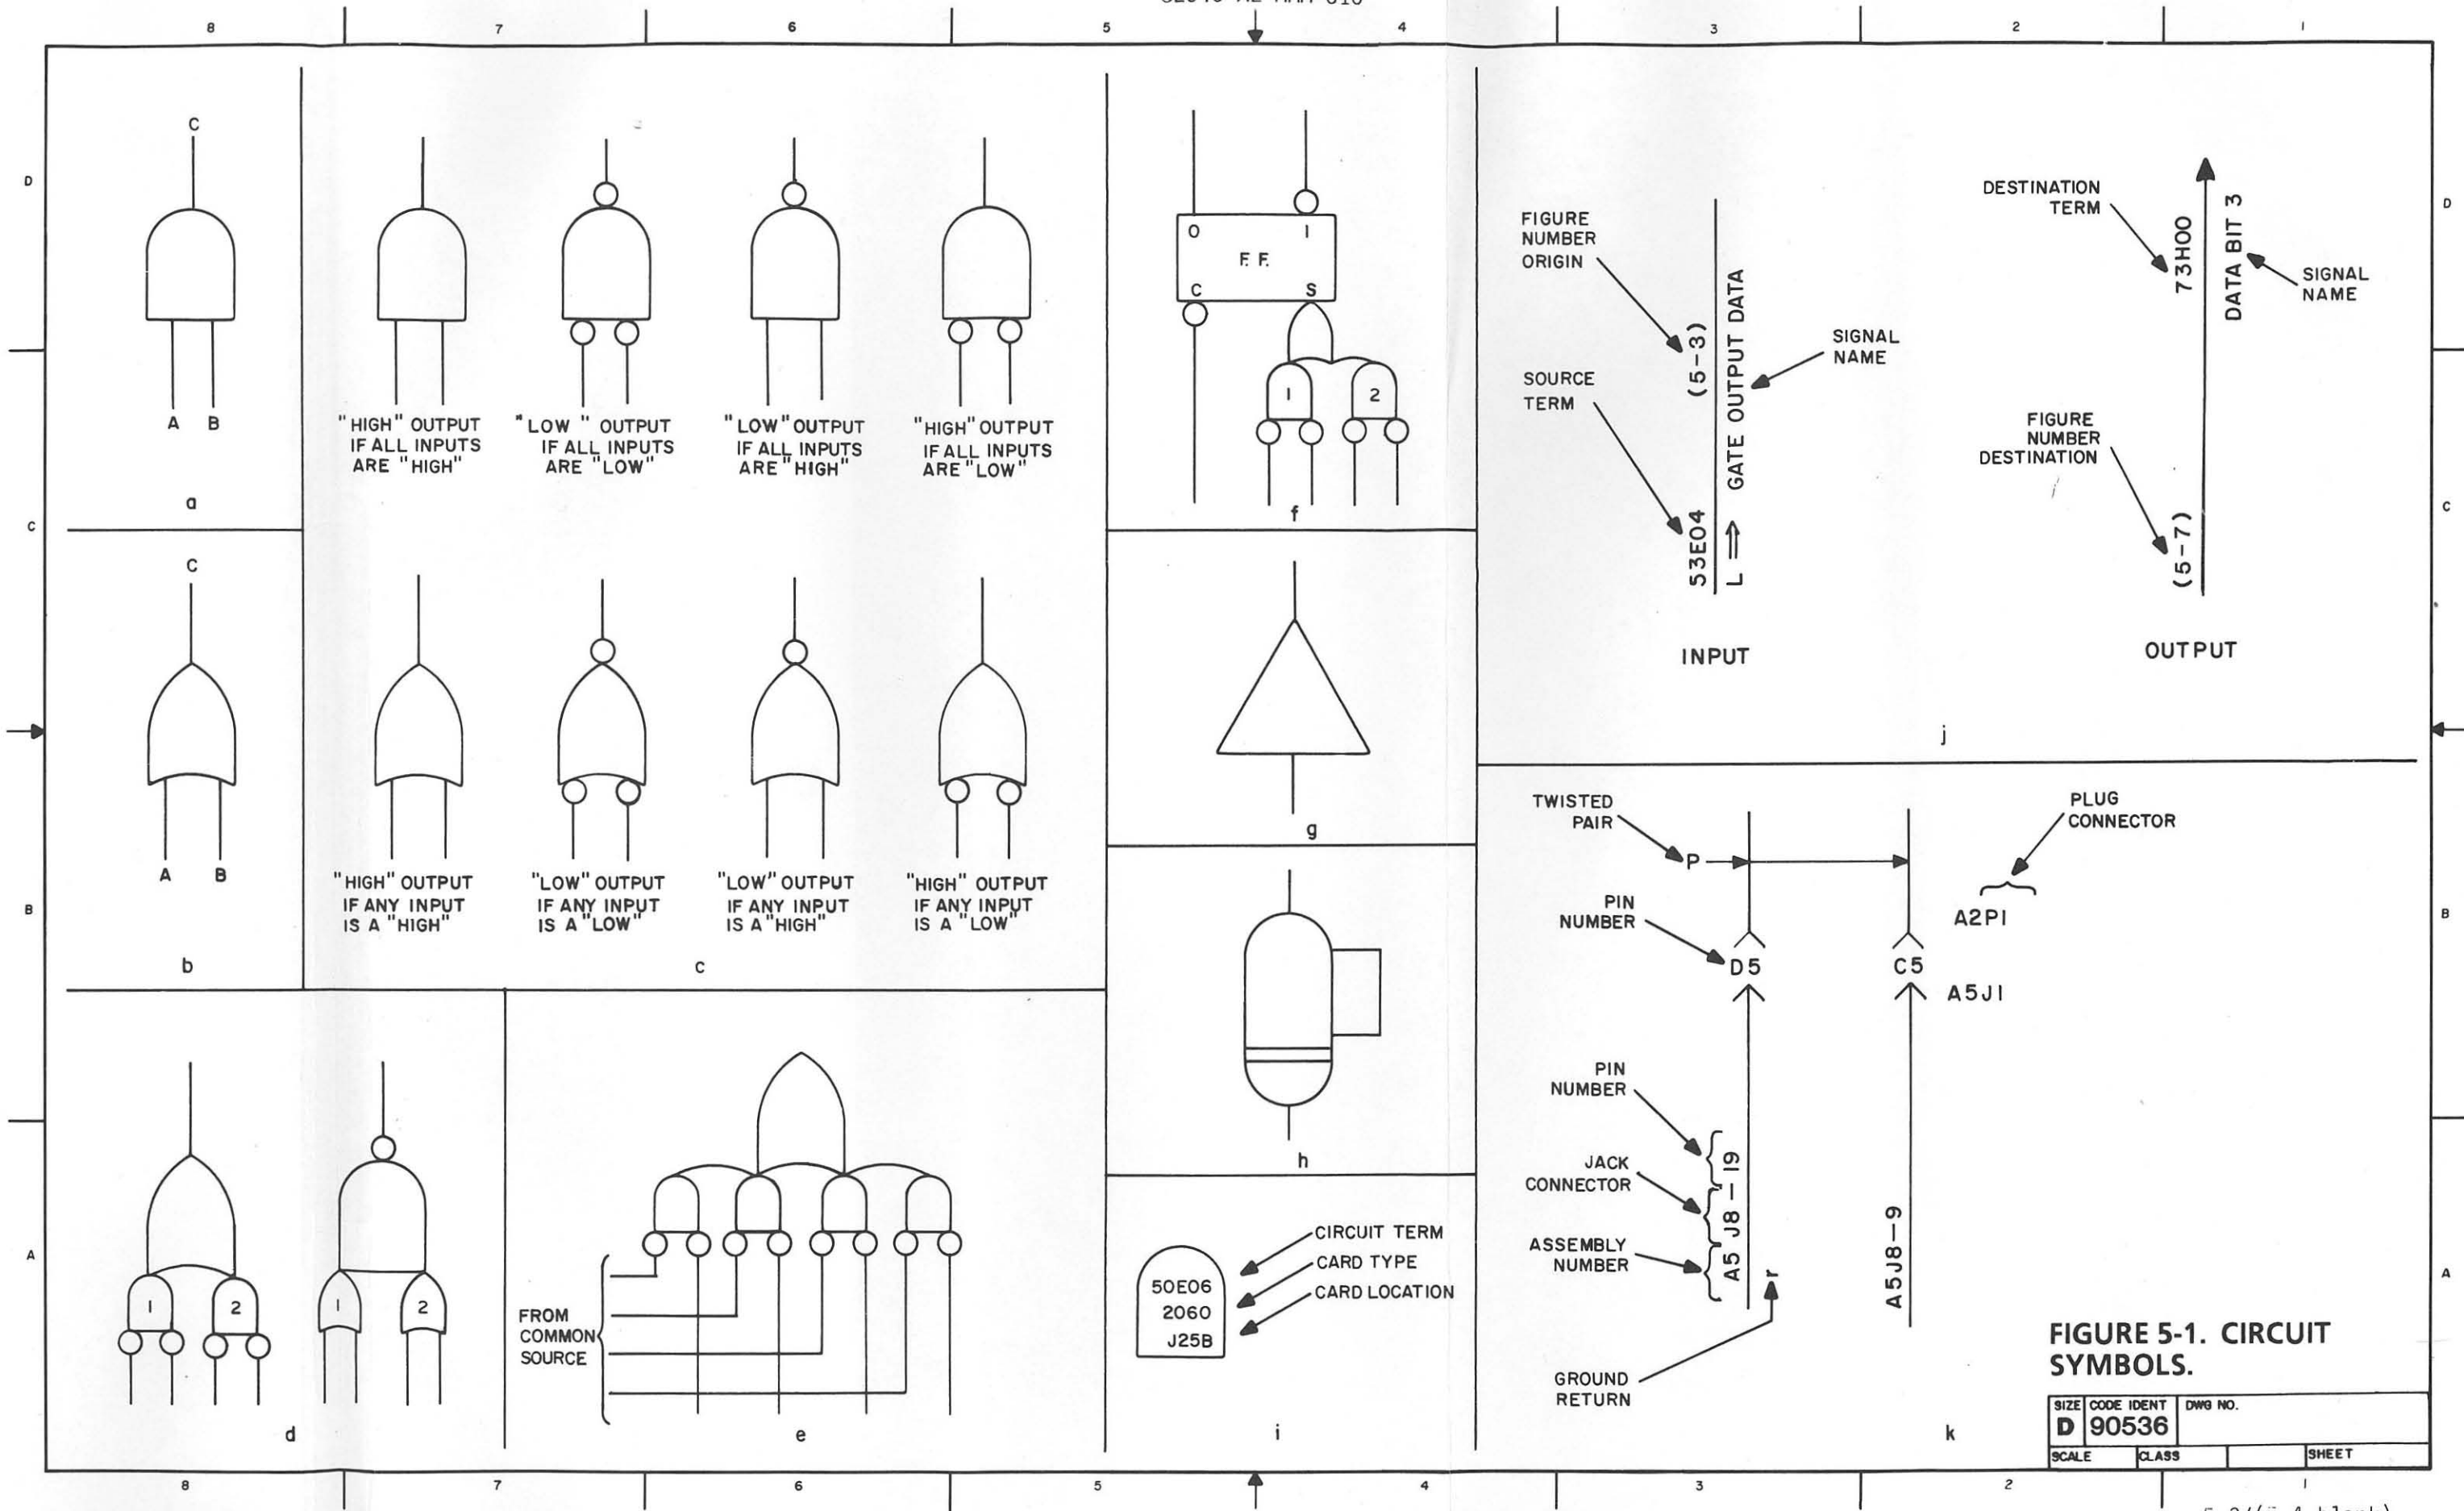

FIGURE 5-1. CIRCUIT SYMBOLS.
5-3. TROUBLESHOOTING. The material contained in this chapter is arranged to promote a logical process of elimination when troubleshooting. A troubleshooting index, protective device index, and general troubleshooting procedures are provided to aid in this endeavor. Figures 5-1 (FO) through 5-20 (FO) are functional schematics which should be referenced when isolating a malfunction.